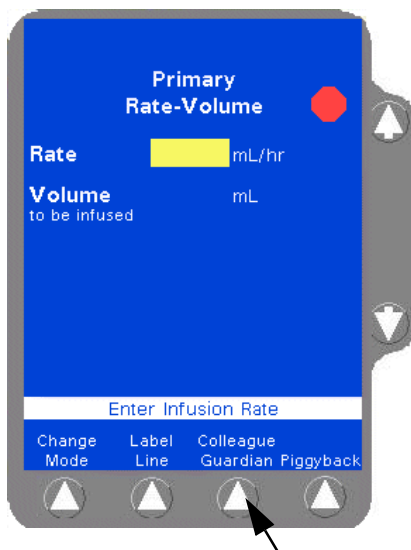

Figure 7 Colleague Guardian Soft Key
2. When the programming screen is displayed, press the **Colleague Guardian** soft key (Figure 7).